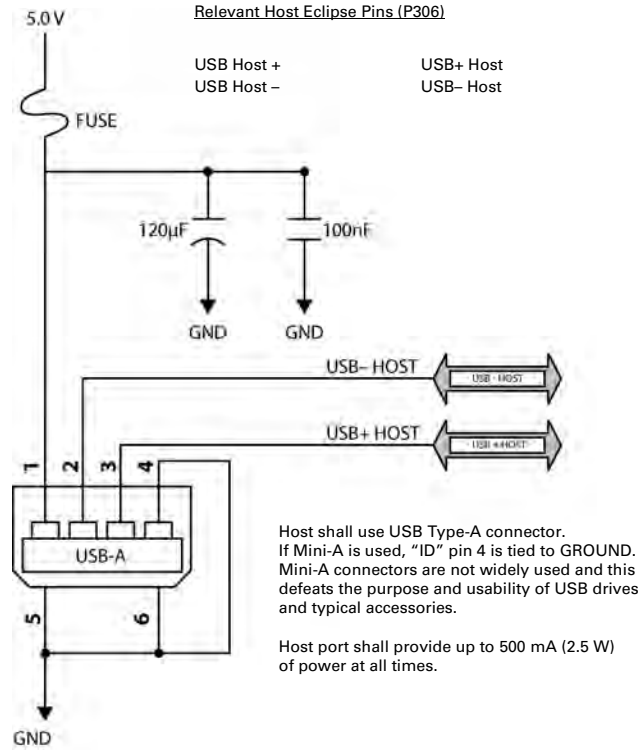

Figure 2-7: Eclipse USB host design example
- USB host port (data storage) shown in Figure 2-7 on page 17 serves as a data storage port, such as with a USB flash drive